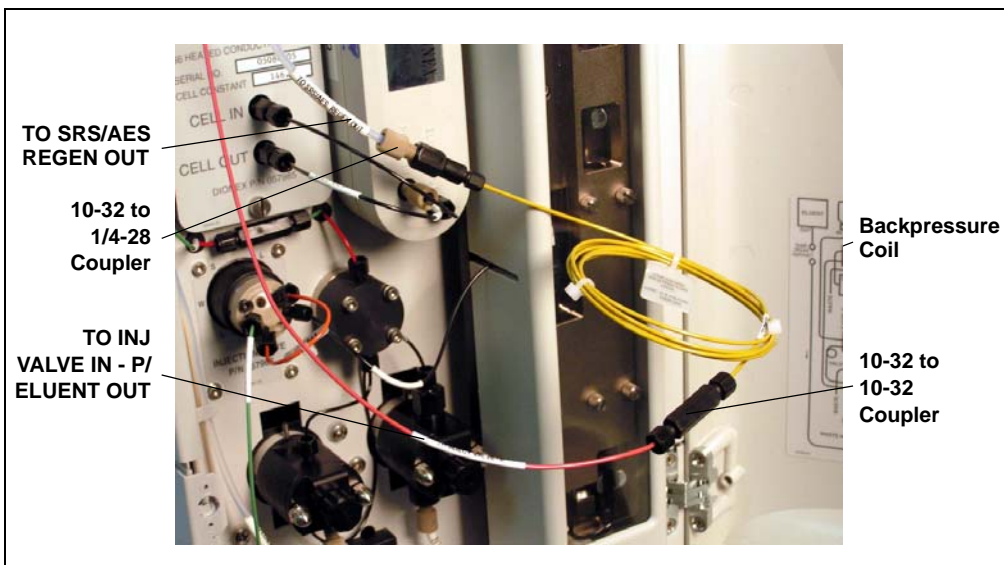

Figure 71. Backpressure Coil Connections for Conditioning the Dionex EluGen Cartridge and Dionex EPM with Carbonate/Bicarbonate Eluent
1. Disconnect the **TO INJ VALVE IN - P/ELUENT OUT** line from port **P (2)** on the injection valve.
5. Connect the **TO SRS/AES REGEN OUT** line to the 10-32 to 1/4-28 coupler (see Figure 71).
NOTE The backpressure coil connection in Figure 71 is temporary; it is required only during the Dionex EPM and Dionex EluGen cartridge conditioning procedure described in the next section.